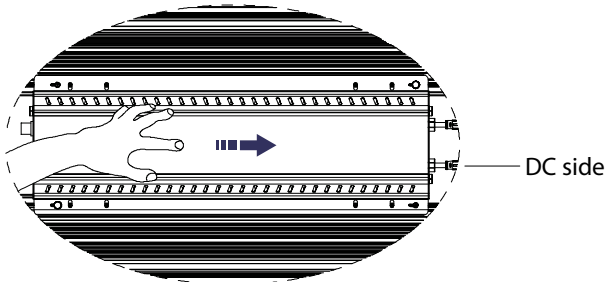

Fig. 7
- As Fig. 7, slide the driver in the direction of the arrow marking.